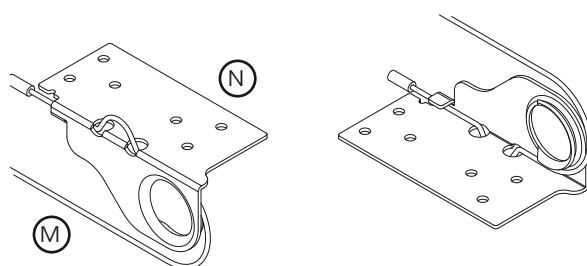

Fig: 2.2.1
- Insert each lifting cable (M), through the holes of the left and right bottom hangers (N) Fig 2.2.1.